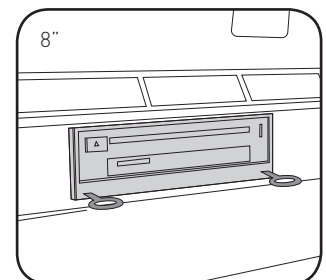

Fig. 1.7
7. **(8 inch radio)** Open glovebox and locate the factory CD player. Using 2 of the supplied removal tools, remove the CD player in the same fashion the radio was removed. (Fig. 1.7) Disconnect main wire harness and all antenna connections.